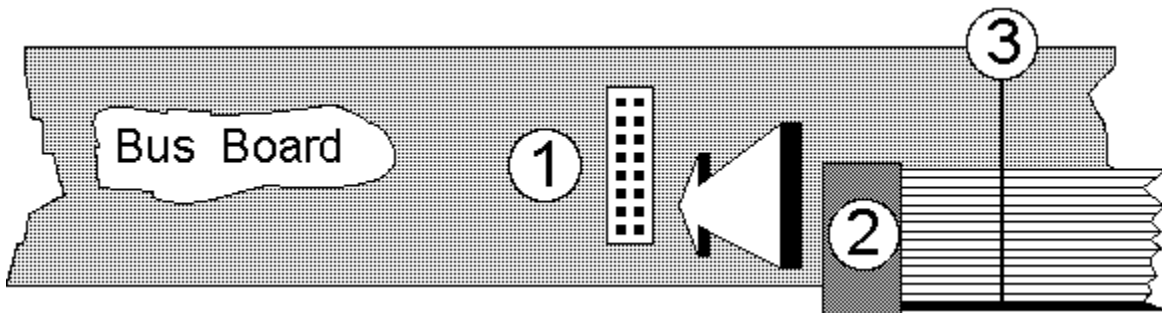

Fig. 4: Connecting the module's ribbon cable to the bus board
Now join the free end of the ribbon cable (see (2) in fig. 4) to the nearest available position on the system bus board (see (1) in fig. 4).
Check very carefully that it is connected so that the coloured marking on the ribbon cable is at the bottom of the bus connector (see (3) in Fig. 4), and it is **pushed fully home, not at a slight angle**. Failure to check this may result in the module's instant destruction as soon as the power is turned back on!